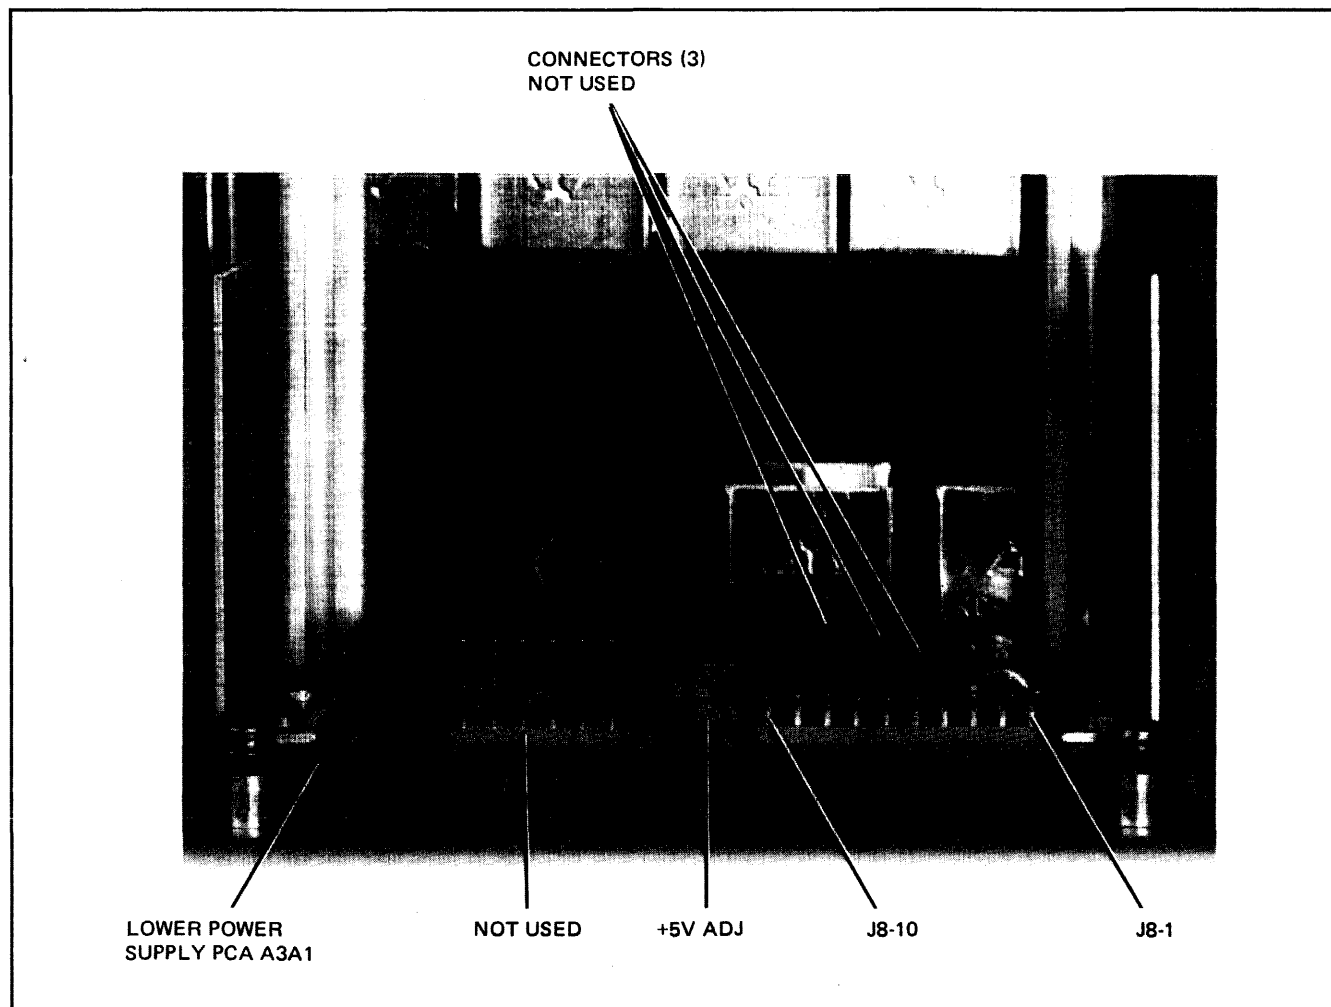

Figure 1-9. Power Supply Field Adjustment and Voltage Test Points
- f. Connect positive lead of digital voltmeter to J8-5 (+5V test point) and connect common lead to J8-2 (common test point). (See figure 1-9.)